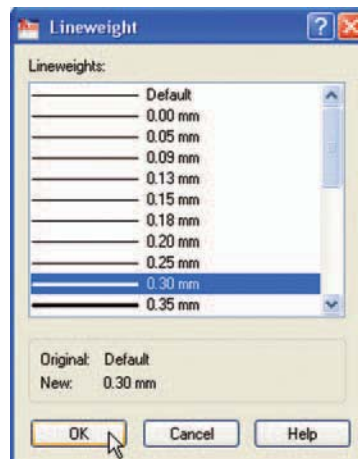

Fig. 4.19 The **Lineweight** dialog
7. Click on any of the lineweights in the **Layer Properties Manager**. This brings up the **Lineweight** dialog (Fig. 4.19). Select the lineweight